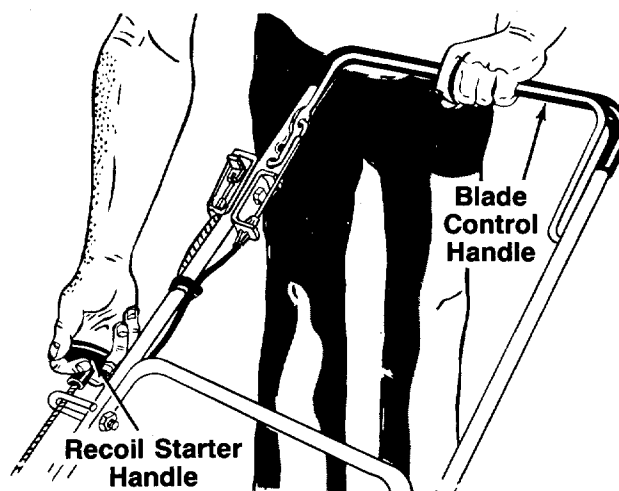

FIGURE 13.
4. Standing behind the unit, depress the blade control handle and hold it against the upper handle as shown in figure 13.